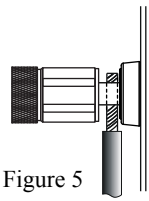

Figure 5
6. Connect the Loudspeaker hookup cables to the a102 Negative Output Terminal and Positive Output Terminal, being careful to observe the correct polarities. Insert the spade lug connector or prepared section of the cable end into the terminal side access hole, and tighten the terminal cap until the cable is firmly clamped into the terminals so the lugs or wire cannot slip out. Refer to figures 5 and 6.